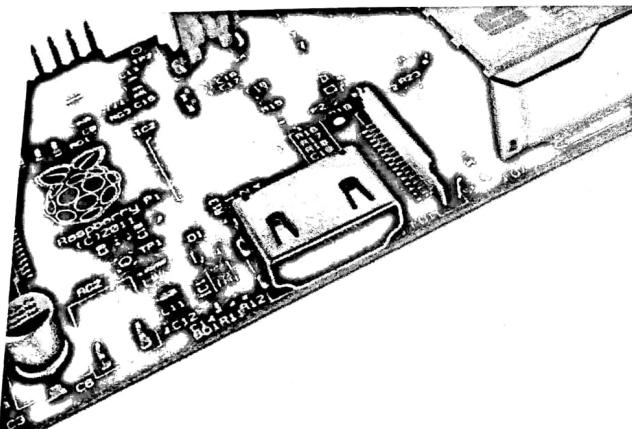

Fig. 14.3.1 : Backside of a Raspberry Pi showing HDMI port
- You need to connect a display before you can start using your Raspberry Pi. The Raspberry Pi has an HDMI port which you can connect directly to a monitor or TV with an HDMI cable. This is the easiest solution; some modern monitors and TVs have HDMI ports, some do not, but there are other options. HDMI Video port found on the bottom of the Pi (see Fig. 14.3.1) gives a better-quality and picture.